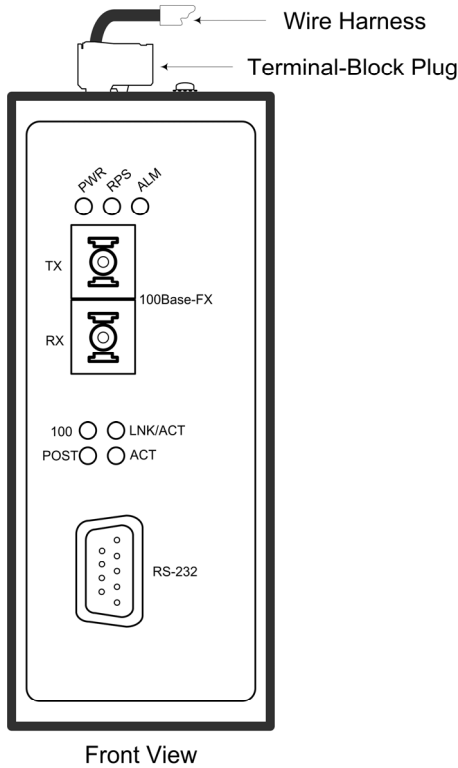

Figure 8: Wired Terminal-Block Plug Inserted Into Device Server
6.	Insert the terminal-block plug into the Device Server's terminal block, as shown in Figure 8.